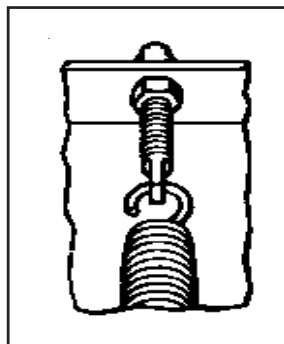

Figure 2
- A. Attach Trip Bumper (19) to flat plate in front of pivot tubes of Moldboard (1).
- B. Attach pivot bar (9) to Moldboard (1) using pivot pins (18) coated with chassis lubricant, 5/8" Flatwasher (16) and 1/8 x 1-1/4" Cotter Pin (17). **(Note: Grease hole on modboard pivot tube)**
- C. Attach trip springs (11) to pivot bar (9) and moldboard (1) with eye bolts (13). Flat end of eye bolt (13) must be in a vertical position, as shown in Figure 2, to hinge properly when moldboard (1) trips. Proper tension is attained when trip spring (11) coils begin to separate and then tighten top locknut four additional turns. Tighten bottom Finish nut to secure eye bolt (13) in position. Install Eye Bolt Caps over threads.
- D. Assemble A-Frame (10) to pivot bar (9) using Bolt (14) and locknut (15).
- E. Install power angling rams with hoses to A-Frame (10) and piston end of ram to pivot bar (9) using hardware bag packed in the Hydraulic Carton.
- F. Straighten end of plow markers (8) so they will be vertical after installation. Attach using 1/4-20 x 1" bolt, clamp, lockwasher and nut.
- G. Secure the moldboard-pivot bar-A-frame assembly to vehicle at the clevis frame using Hinge Pins (20) and Lynch Pin (21). Attach lift chain to lift arm allowing sufficient slack to allow moldboard to follow ground contours.